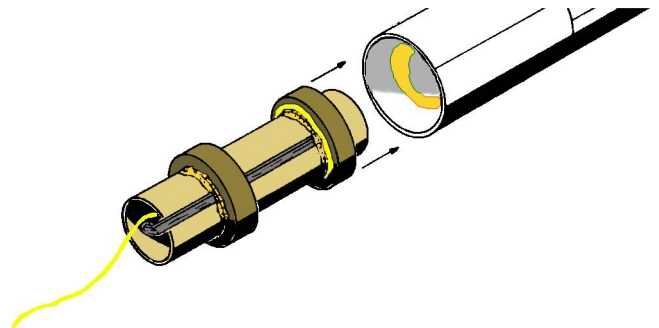

Figure 7
- **Step 13** Push the Kevlar thread down through the center of the sustainer engine mount. Apply a generous bead of glue up inside the **bottom** of the sustainer body tube, 1” up from the edge, as shown in Figure 7. Push the sustainer engine mount forward into the body tube until the bottom of the motor tube is even with the bottom of the sustainer body. Do this in one continuous motion, not stopping at any time